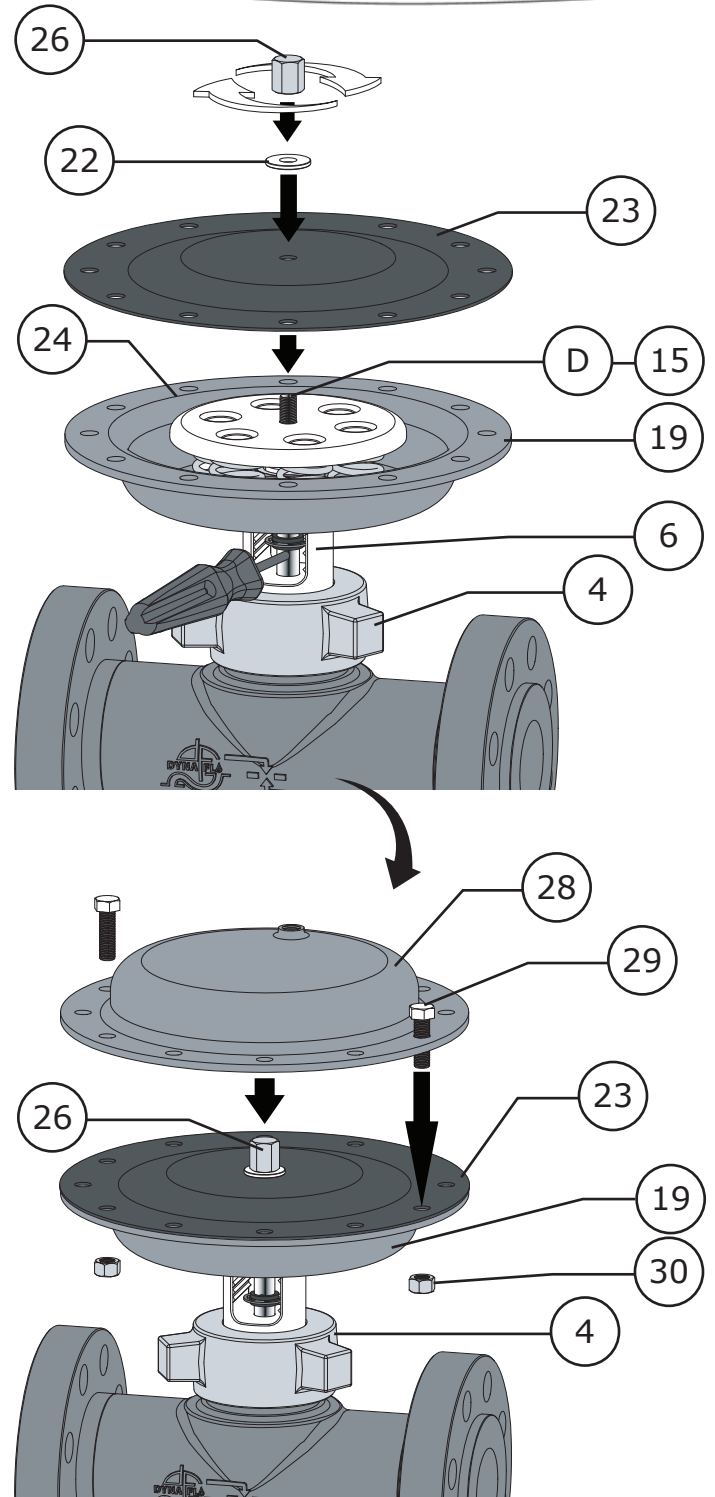

Figure 45 Upper Diaphragm Assembly (Fail Open)
NOTE: There should be 6 plate embossments, if your actuator configuration requires less than 6 springs (3 typical), leave an empty embossment between each spring so that they are equally spaced. Refer to Figure 45.
- 13 Install the **long** (1-1/4") cap screws (Key 29) opposite from each other as shown in Figure 45. Thread a nut (Key 30) onto each of the **long** cap screws hand tight and then manipulate the diaphragm (Key 23) in order to install the 10 remaining **short** cap screws (Key 31). Thread a nut on to the **short** cap screws and using two 9/16" wrenches or socket set, tighten all the cap screws to 20 lbf-ft (27 N·m).